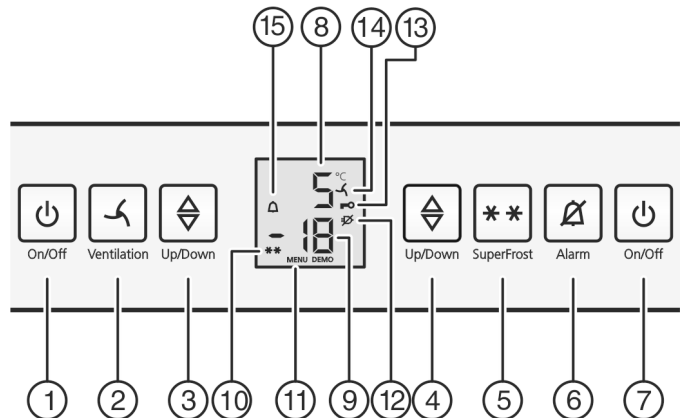

Fig. 2
- ▶ Press the freezer On/Off *Fig. 2 (7)* button.
- ▶ Press the fridge On/Off *Fig. 2 (1)* button.
- ▶ Activate setting mode: press the SuperFrost button *Fig. 2 (5)* for approx. 5 seconds.
- ▷ The Menu symbol *Fig. 2 (11)* is shown on the display.
- ▶ Briefly confirm with the SuperFrost button, *Fig. 2 (5)*.
- ▷ The child lock symbol *Fig. 2 (13)*, lights up on the display.
- ▶ Briefly press the freezer compartment On/Off button *Fig. 2 (7)*.
- ▷ The child lock symbol *Fig. 2 (13)* goes out.
- ▶ Press alarm button *Fig. 2 (6)*.
The temperature display and the alarm symbol *Fig. 2 (15)* flash at the same time.
The audible alarm is automatically silenced, the alarm symbol *Fig. 2 (15)* goes out and the temperature display stops flashing when the temperature is sufficiently cold again.